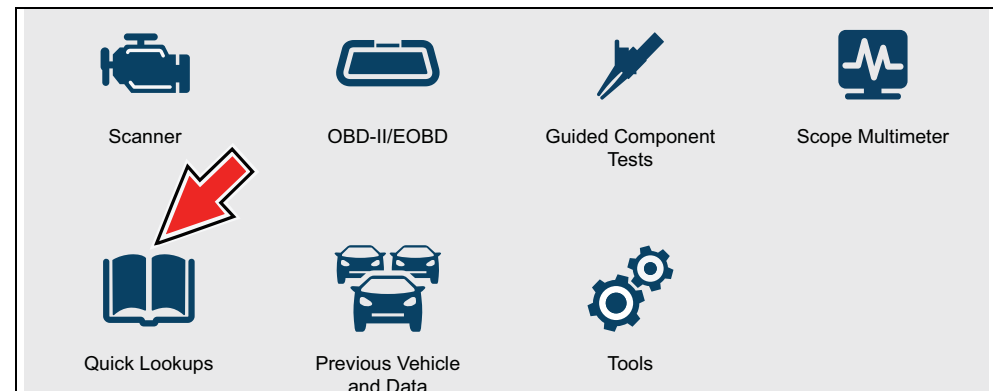

Figure 9-10 Home Screen - Quick Lookups Icon
- **From the Home screen** - select the **Quick Lookups** icon (Figure 9-10), then select **Tire and Wheel Service**, then proceed to Step 1.